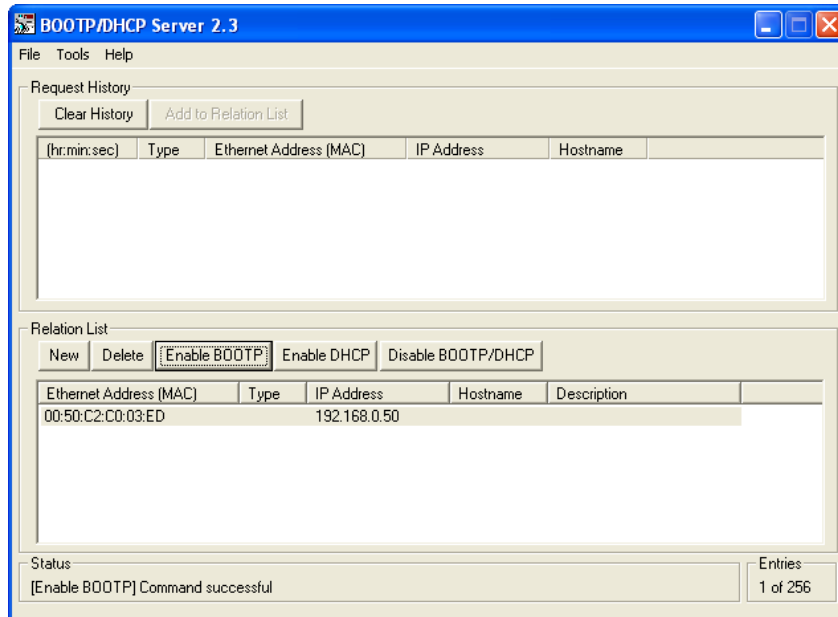

Figure A.3 Bootp Enabled
- 3) Click on your new entry in the "Relation List". This will activate the buttons in the pane. Click on the [Enable BOOTP] button. The message "[Enable BOOTP] Command successful" should appear instantly in the status line at the bottom of the window. Figure A.3 shows the state of the RA Bootp Server software at this point.